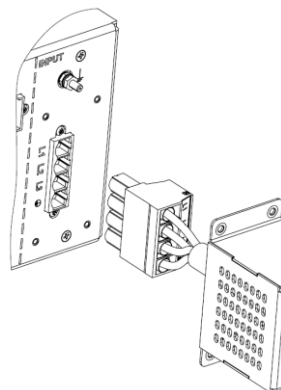

Figure 7-12: Inserting the AC Cable
8. Insert the AC input connector into the power source as shown in **Figure 7-12**.